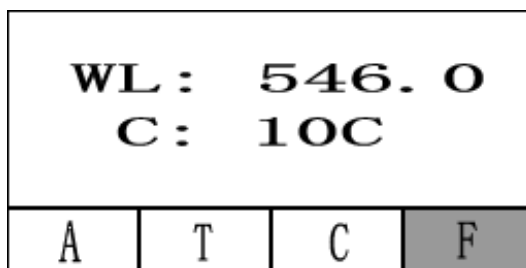

Fig. 4-10
Step 5, Put the “Sample” in the light path, read the Conc. value. (Fig. 4-10)